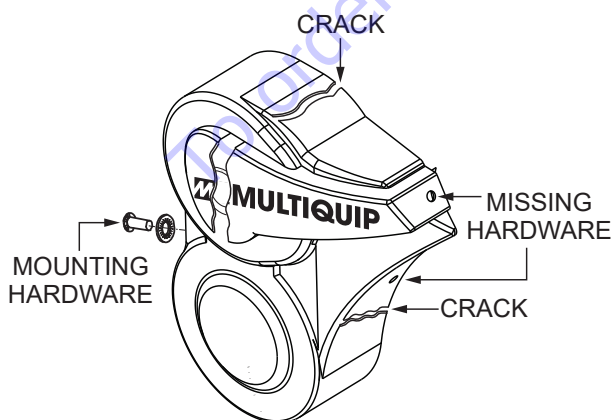

**Figure 30. V-Belt Inspection**
1. Inspect the V-belt (Figure 30) to determine if it is frayed, peeling, full of tiny cracks, has pieces of rubber missing, or is otherwise damaged.
2. Inspect the V-belt (Figure 30) to determine if it is oil-soaked or *glazed* (a hard, shiny appearance on the sides of the belt). Either of these conditions can cause overheating of the belt, which may weaken the belt and increase the possibility of it breaking.